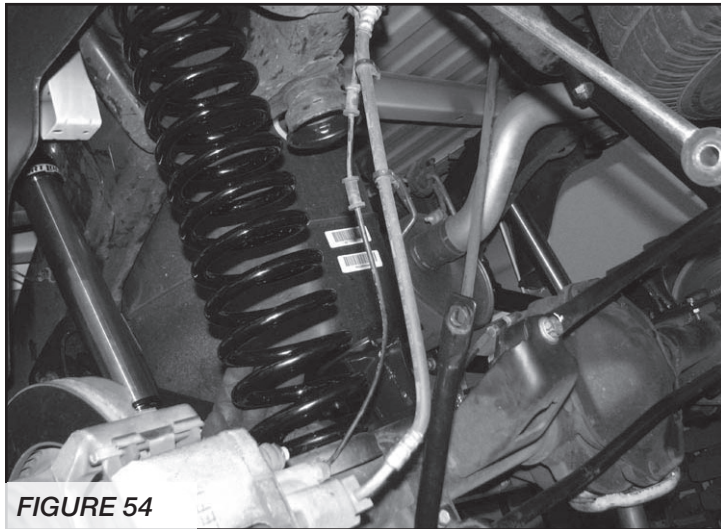

FIGURE 54
70. Install the Fabtech coil springs FT50302BK using the factory coil isolator. **SEE FIGURE 54**